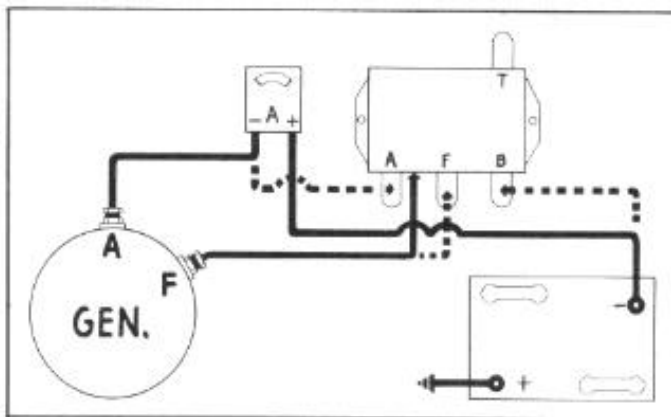

FIGURE 21
1. Disconnect battery lead at voltage regulator "B" terminal and connect positive ammeter lead to wire just disconnected, Figure 21.